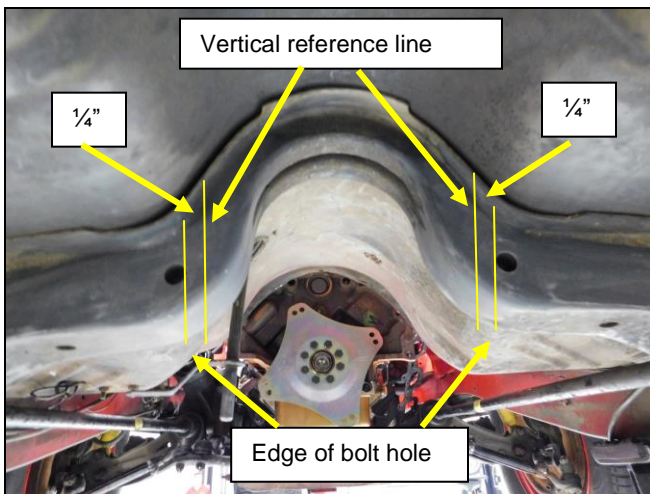
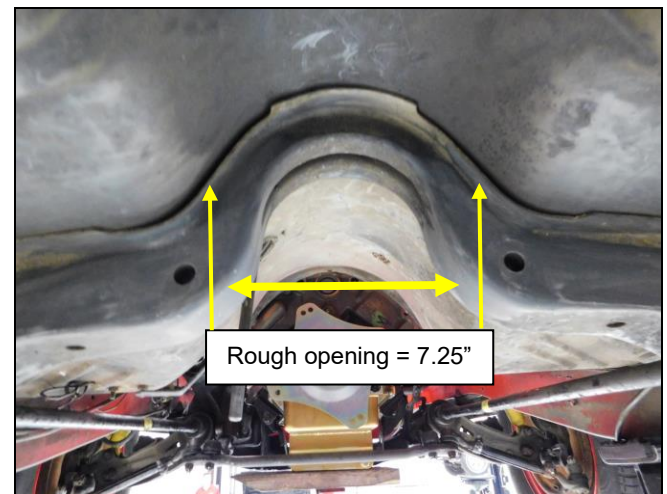

Figure 1
Figure 2
1. Measure from the edge of the bolt hole to the vertical reference line and mark at $\frac{1}{4}$ " (**Figure 1**).
2. Draw a vertical reference line from top to bottom on the upper torsion bar crossmember (**Figure 1**). This will be the rough opening after the section of crossmember is removed. The opening will be trimmed to actual size after the initial cut is made to avoid cutting into the support bushings inside the Crossmember Support (**Figure 2**).